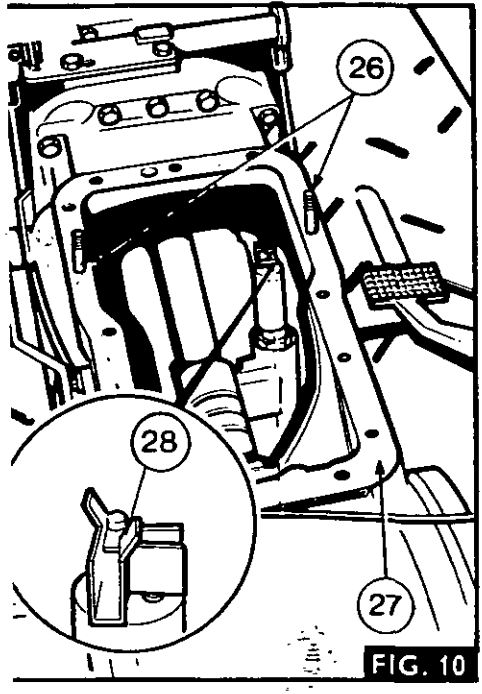
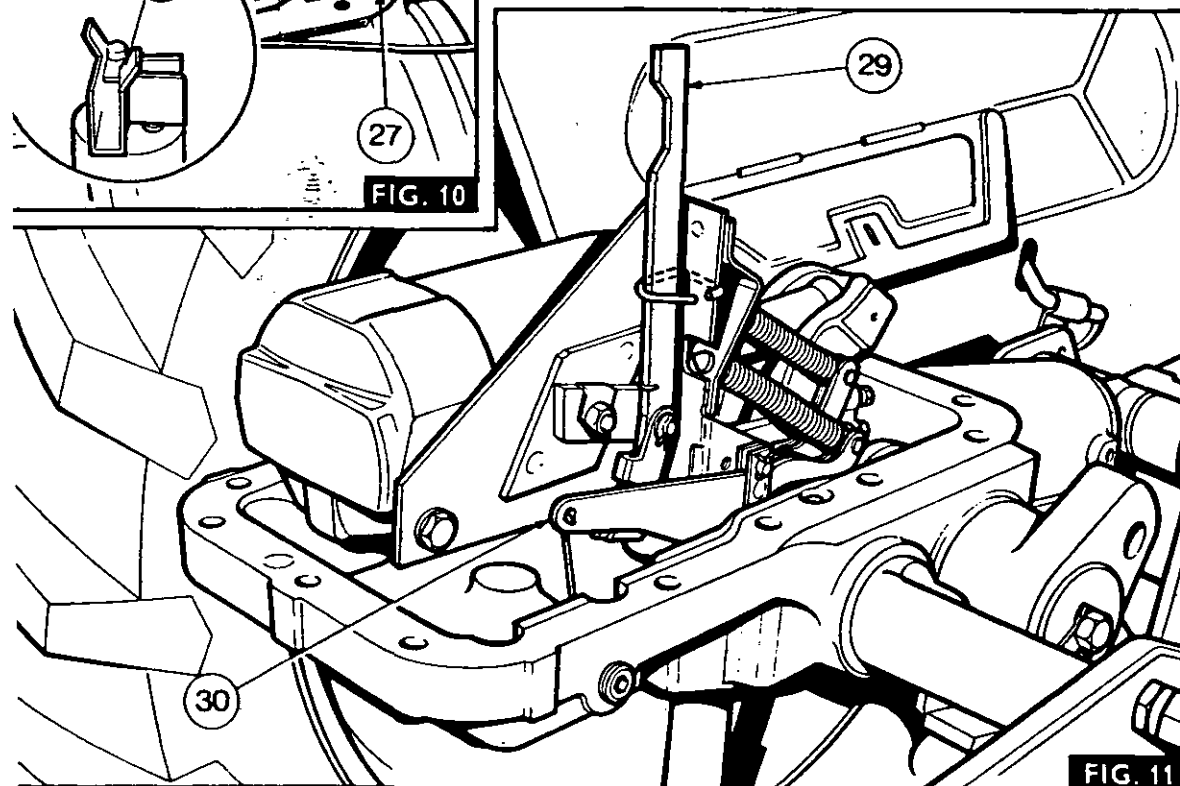

FIG. 10
FIG. 11
1. Fig. 10. Fit the two guide studs (26) to the centre housing, as shown.
2. Fit a new lift cover gasket (27).
3. Position the Pressure Control adjuster assembly (28), as shown.
5. Fig. 11. Using suitable pieces of wire retain the vertical lever (29) and the Pressure Control link (30), as shown.